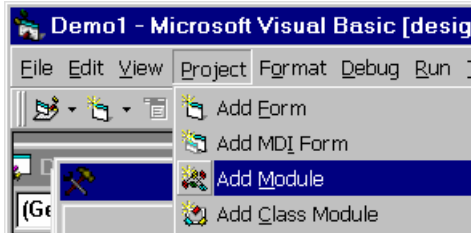

Figure 2-3-1. Select the menu items "Project" / "Add Module".
Step 2: Select the menu items "Project" / "Add Module". Refer to Figure 2-3-1.